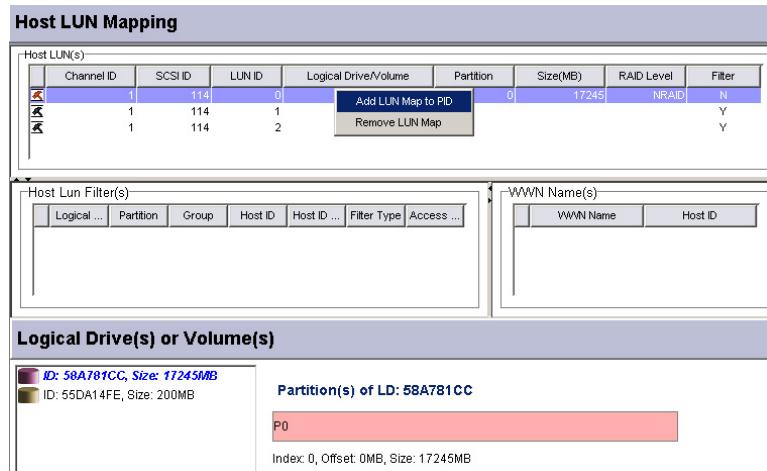

Figure 10-2: Selecting the Host Channel ID Number
Step 2. The Host LUN Mapping window should appear on the right. Right-click on the Host LUN(s) sub-window to display **PID** (Primary controller ID)/**SID** (Secondary controller ID) command menu as shown in *Figure 10-2*. Galaxy's controllers or subsystems always come with pre-configured IDs. If it is necessary to add alternative IDs, please select the **Channel** window from the navigation panel.
**Step 1.** Follow the steps listed in *Section 10.1* above to access the **LUN Map Setting** window shown in *Figure 10-2*.